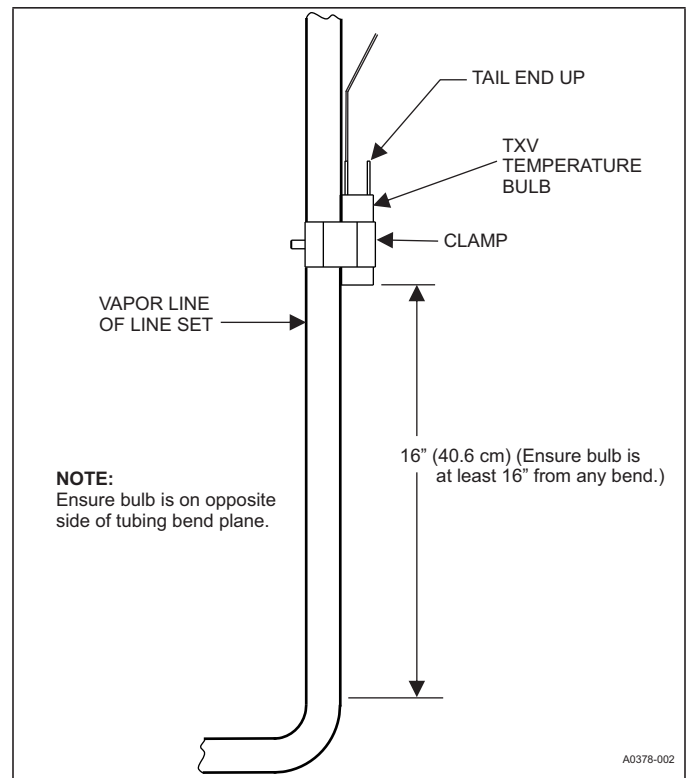

FIGURE 20: Vertical Temperature Bulb Orientation
- b. If bulb installation is made on a vertical run, locate the bulb at least 16" (40.6 cm) from any bend, and on the tubing sides opposite the plane of the bend. Position the bulb with the tail of the bulb at the top, so that the bulb acts as a reservoir. See Figure 20.